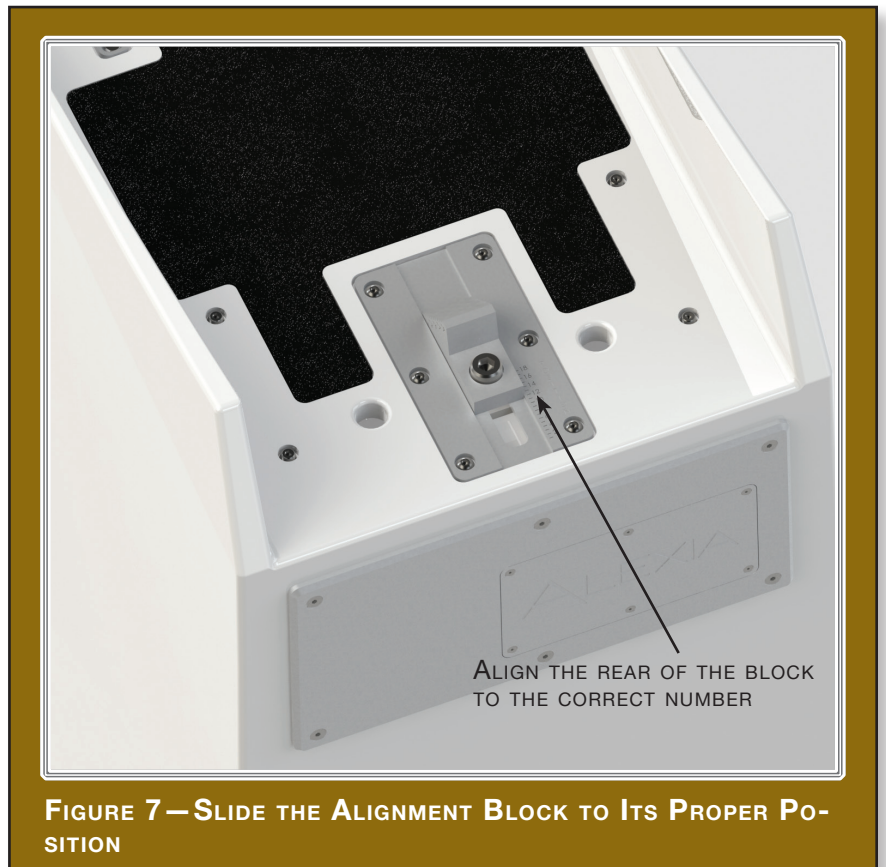

FIGURE 7—SLIDE THE ALIGNMENT BLOCK TO ITS PROPER POSITION
The Tweeter module's upper plate features detents that correspond to a spike built into the front of the upper cross member located above the tweeter module (see Figure 7), the specific location of which determines the propagation delay position of the tweeter module within the Upper Array. The alignment plate contains numbered indents. The alignment tables in Section 8 contain the information for positioning the tweeter module in the array, determined by the indent in which the cross member's spike rests.
4. While sitting, have someone measure your ear height from the floor directly below your ear canal. You should be relaxed in your chair, as you would be when listening to music (see Figure 7).
6. Refer to the Propagation Delay Tables (Section 8) and locate the corresponding ear height for each module. There are four charts for the Upper Array. The first: “Alexia Upper Array Spike Length” is a table determining the rear spike length. The second is the table: “Alexia Upper Array Alignment Block Position” determining the blocks front-to-back location (see Figure 7). The third table: “Alexia Upper Array Alignment Block Step” specifies the step on which the rear spike will rest (see Figure 7). The
fourth table: “Tweeter Module Detent Position” specifies the position of the bridge spike into the detent on the top of the tweeter module (see Figure 7).
8. Make a mark on the second chart labeled “Alexia Upper Array Alignment Block Step Position” indicating the block location for that module. Set this information aside as you will refer to it in the next section. (See Figure 7.)
9. Make a mark on the third chart labeled “Alexia Upper Array Alignment Block Step” indicating Upper Array spike’s resting position on the alignment block. Set this information aside as you will refer to it in the next section. (See Figure 7.)
1. Install the front pair of short (AA length) spikes into the bottom of each module (see Figure 7).
3. Refer to table labeled “Alexia Upper Array Alignment Block Step Position.” Using the rear edge of the Alignment Block as the guide, align the block to the proper front-to-back setting for the Upper Array. (Figure 7). Once the block is in its proper position, lock it down using the 3/8” Allen wrench.